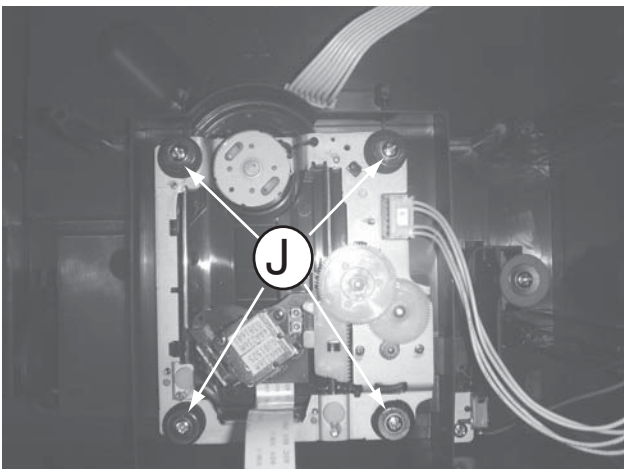

Figure 10
- 2) Loosen 4 screws "J" on the top of DVD loader as shown in figure 10.